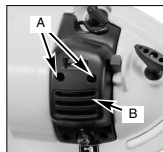

Fig. 7A
1. Remove 2 screws (A) holding air filter cover in place, remove cover (B) and lift filter (C) from cover (Fig. 7A and B).